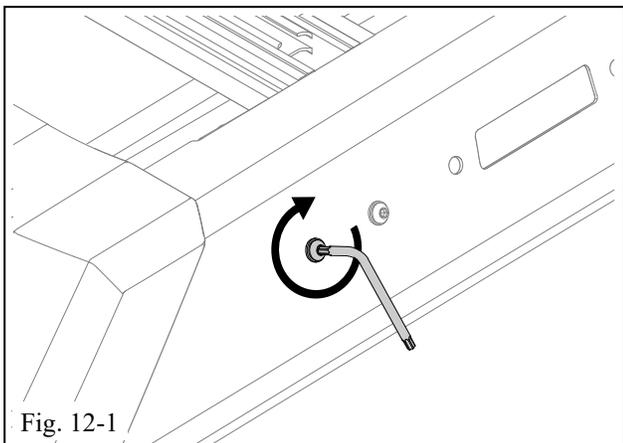

Fig. 12-1
- (a) Tighten both of the front side panel screws completely to 5 Nm or 4 ft-lb (Fig. 12-1).